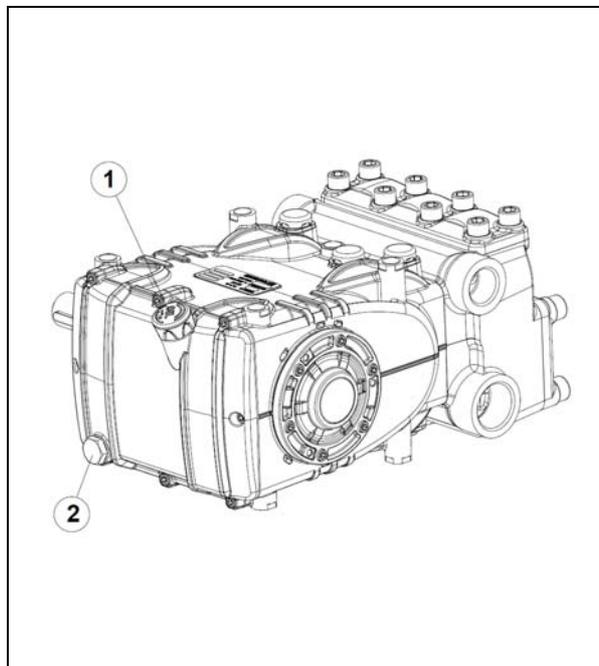

fig. 1
To remove oil, you must remove: the oil dipstick, pos. ① and then the plug, pos. ②, fig. 1.